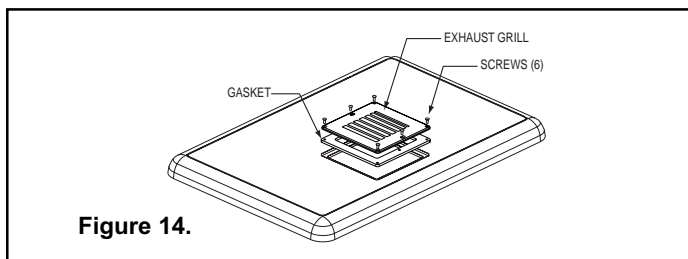

Figure 14.
1. Remove the six (6) retaining screws from the old exhaust grill and discard the screws, gasket, and exhaust grill as shown in Figure 14.